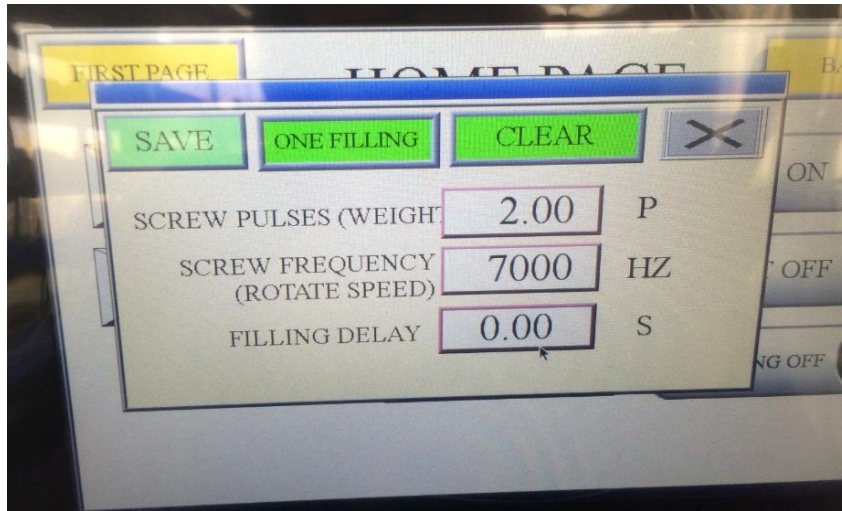

Fig. 4-8
**Screw:** displays the screw condition and adjust the filling weight. click this button to go into the interface 4-8. (see Fig. 4-8)
click “Screw” : displays the set number of screw rotation and adjust the filling weight. It is also decided by the screw size. Click in the ‘##.##’ field, enter the required figure and then press ‘ENT’ to confirm. (see Fig. 4-8)